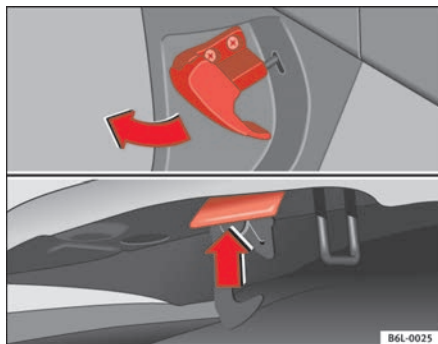

Fig. 121 Detail of foot-well area on driver's side: lever for unlocking the bonnet.
- To release the bonnet, pull the lever under the dashboard ⇒ **fig. 121** in the direction indicated (arrow). The bonnet will be released by a spring action ⇒ .